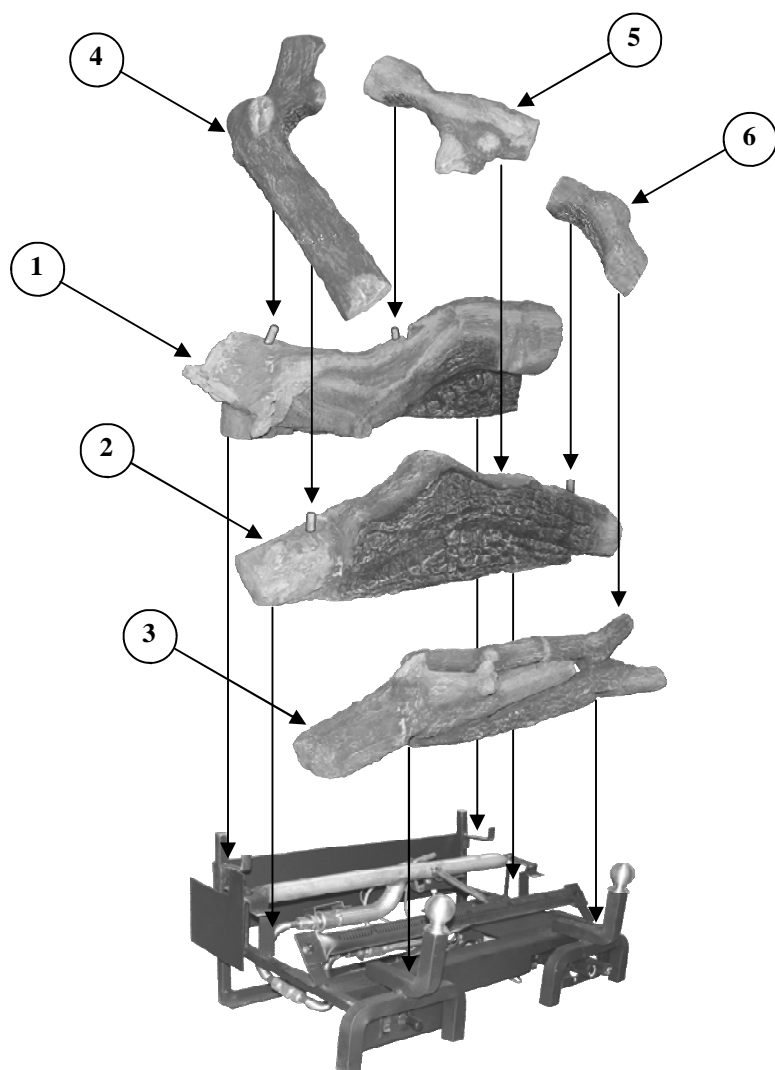

Figure 6a.
**WARNING:** POSITIONING OF LOGS IS VERY CRITICAL. (See Figures 6a & 6b)